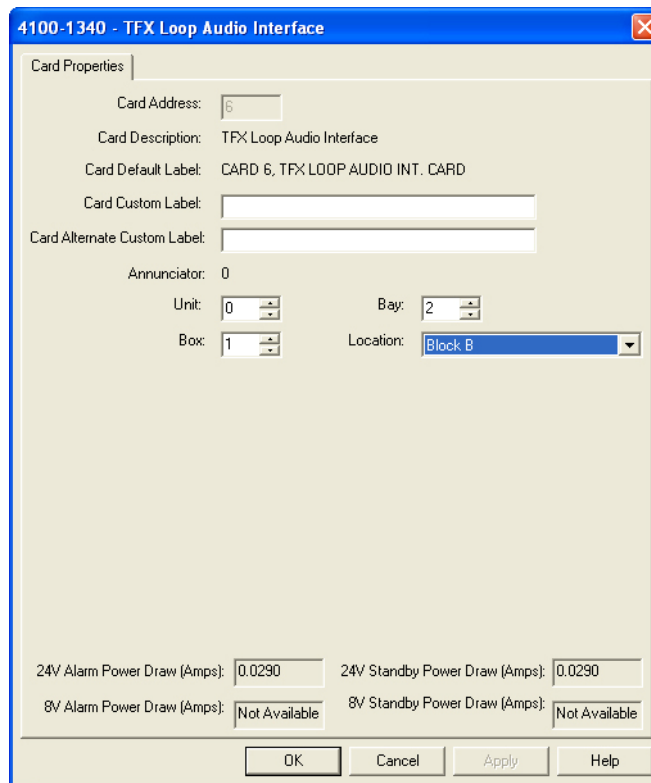

Figure 8-11. TFX Audio Interface Card Properties Dialog Tab
5. Double click on the interface card's icon. The Properties sheet for the card appears as shown in Figure 8-11.